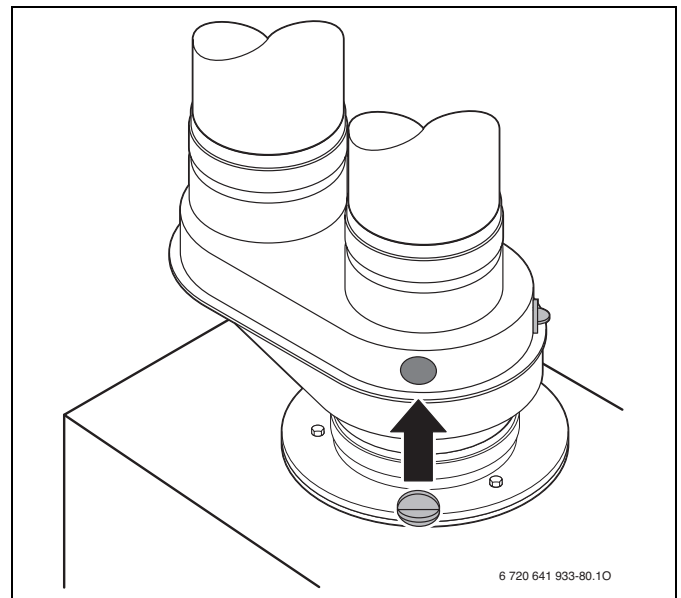

Fig. 73 Close flue gas test ports
- ▶ Remove flue gas probe and close the flue gas test port properly (→ Fig. 73).